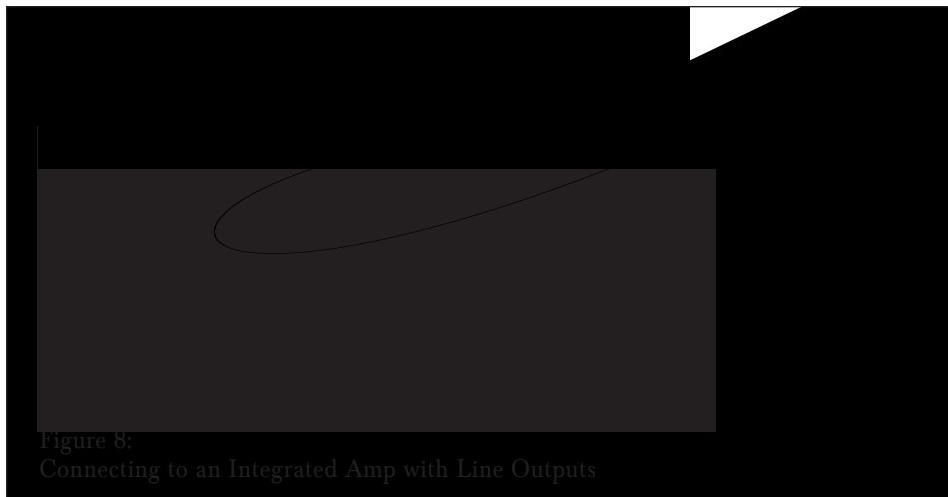

Figure 8:
3. Integrated amplifier with left & right line-level outputs but no Main In or Amp In jacks (see *Figure 8*):